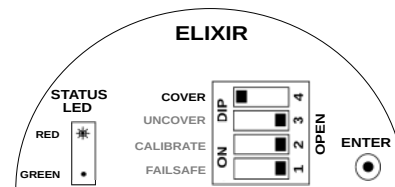

Figure 18: Cover Delay Switch Position
2. Set the COVER switch to CLOSE (Opposite of OPEN in a DIP switch) position as shown in Figure 18.